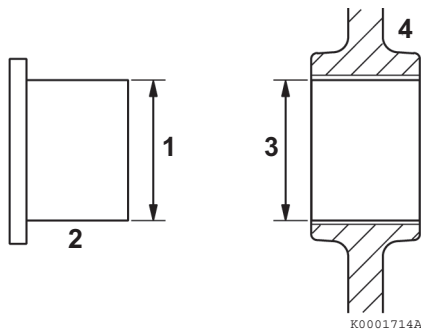

Figure 6-81
1. Measure the outside diameter (**Figure 6-81, (1)**) of the idler gear shaft (**Figure 6-81, (2)**). See *Idler Gear Shaft and Bushing on page 6-8 for specifications*.
2. Measure the inside diameter (**Figure 6-81, (3)**) of the idler gear bushing (**Figure 6-81, (4)**). See *Idler Gear Shaft and Bushing on page 6-8 for specifications*.